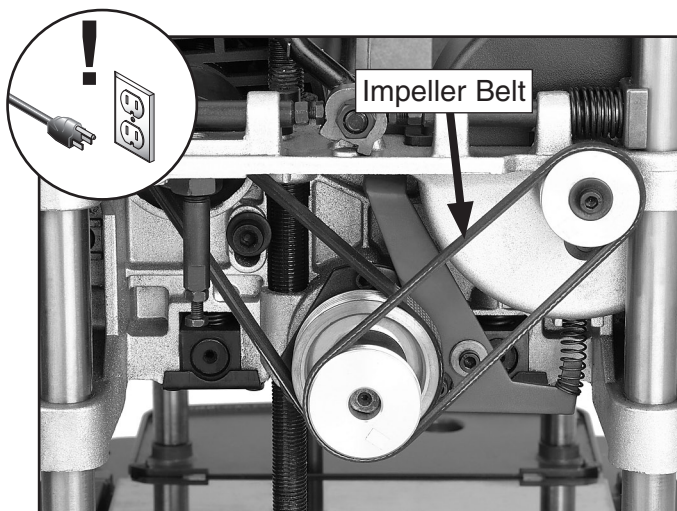

Figure 38. Impeller belt.
3. Remove the impeller belt by first rolling it off the cutterhead pulley, then remove it completely (**Figure 38**).